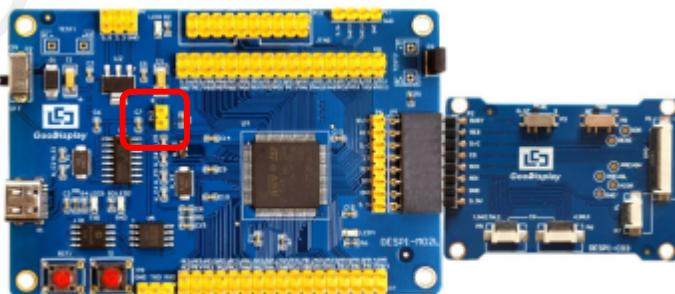

Figure 15 :The position of P12
- 3) Connect P12 with a short-circuit jumper, the position of P12 is shown in Figure 15.